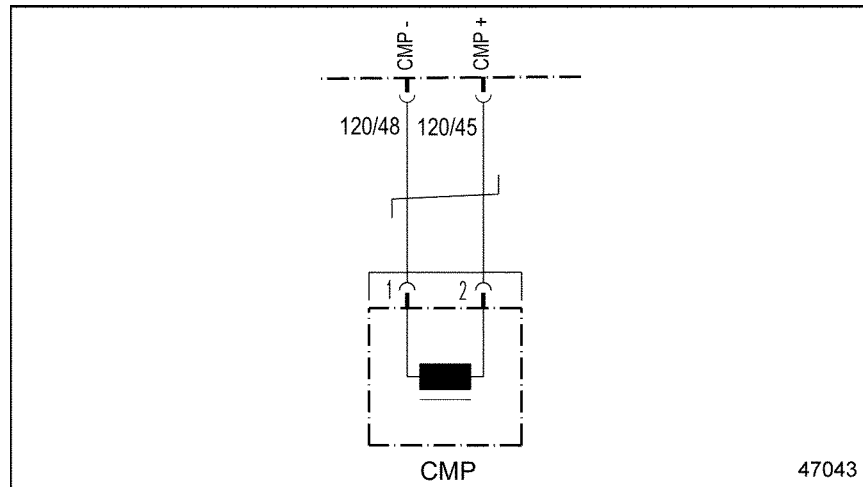

Figure 36-1 MCM — Camshaft Position Sensor Schematic
2. Measure the resistance across pins 1 and 2 of the CMP Sensor. See Figure 36-1.